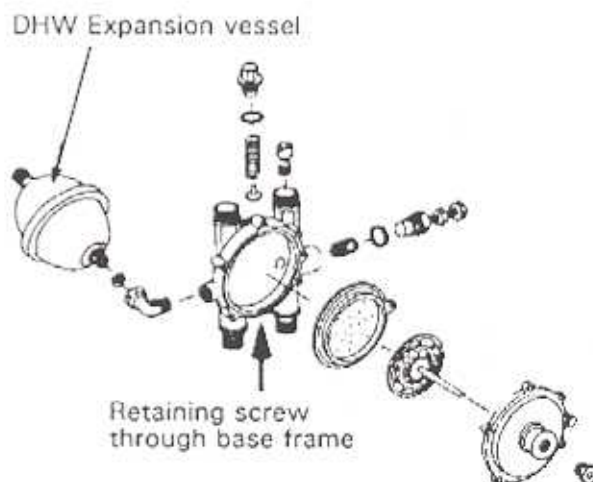

Fig.39
8.19 Removal of Domestic Hot Water Manifold Refer to fig.39
8.19.5 Remove manifold (fig.39) gives details of further disassembly.
Refer to fig.39